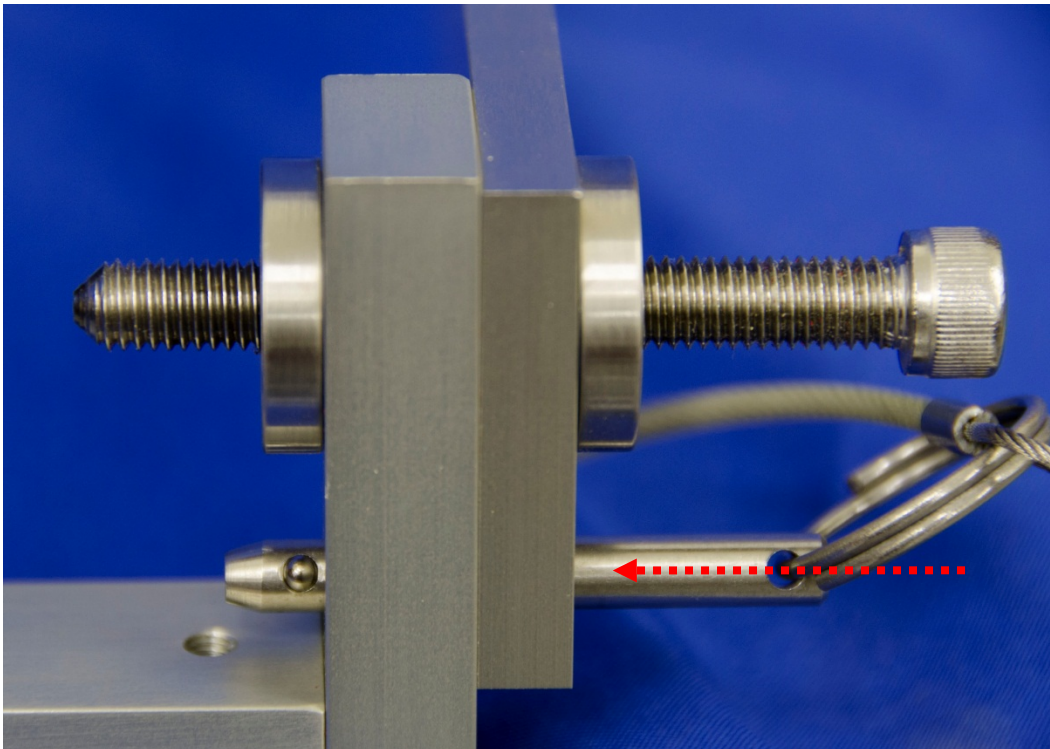

Figure 125. Insert pins into Q3s positioning device
- Tape the impact side arm of the dummy to the head, assuring that it will clear the cables from the impact probe (Figure 125). The non-impact arm is positioned with the upper arm and lower arm perpendicular as shown in Figure 125.